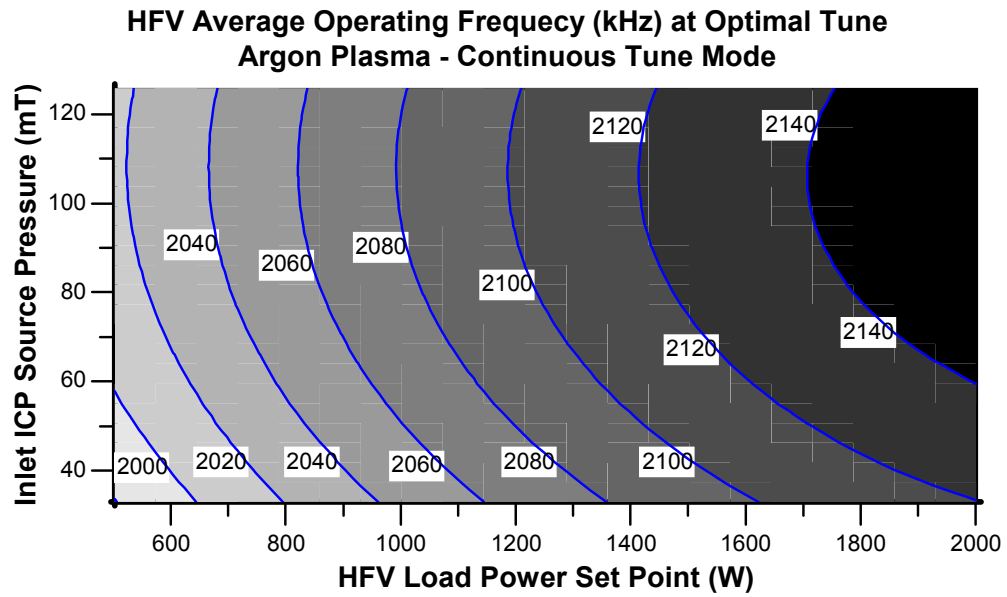
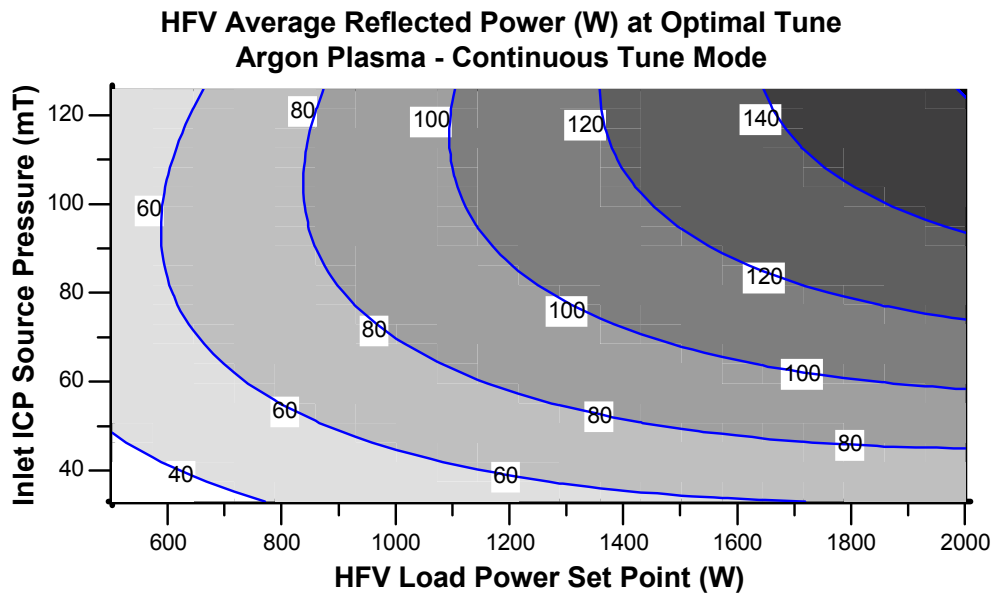
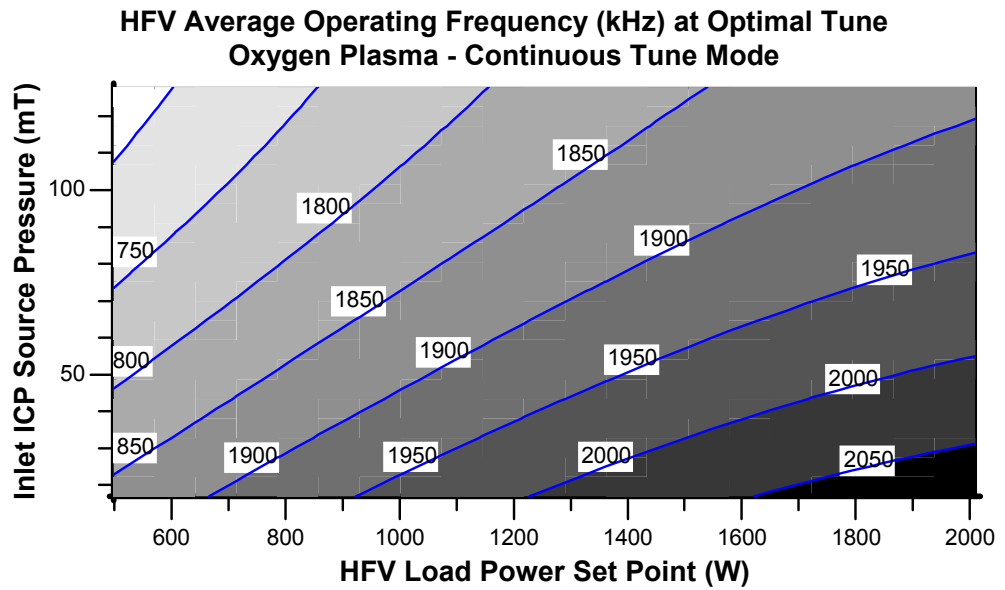
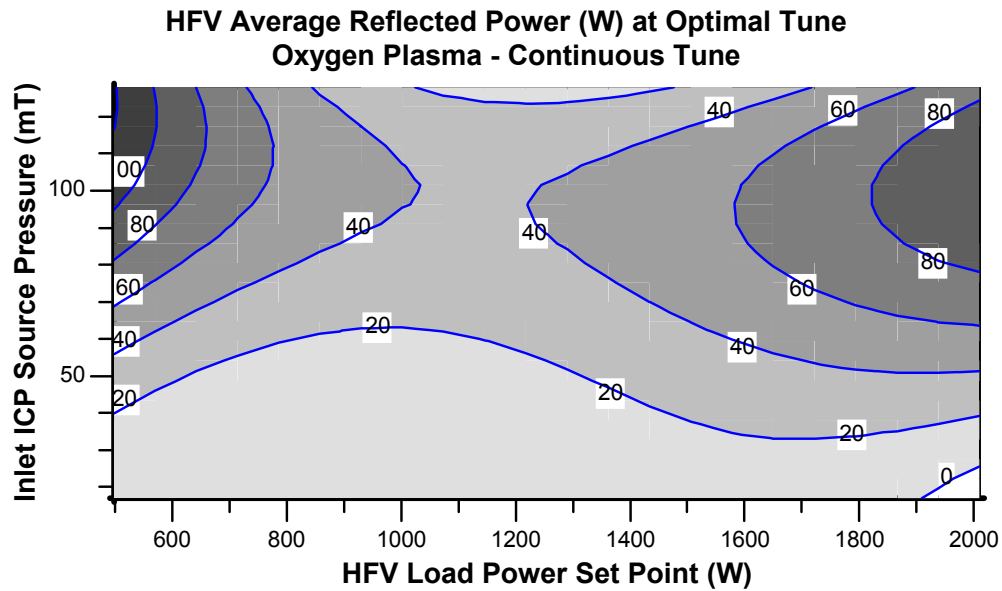

Figure 5-6. Frequency response vs. load power setpoint and inlet pressure
Figure 5-7. Reflected power response vs. load power setpoint and inlet pressure
Figure 5-8. Frequency response vs. load power setpoint and inlet pressure
Figure 5-9. Reflected power response vs. load power setpoint and inlet pressure
Figure 5-6 through Figure 5-9 show contour plots of RF frequency and reflected power against setpoint load power and inlet pressure for Ar and O₂ that are exemplary of normal operation. Depending on the installation and pumping speed of your vacuum system, the exact values of frequency and reflected power in your installation may deviate from these exemplary response surfaces. As such, the following data should be used as a guide to anticipate the ICP source's response and range under normal operation.
There may be applications where it is necessary to work outside the normal range of operation as depicted in Figure 5-6 through Figure 5-9. In such cases, it is possible to make adjustments to the ICP source's fixed match component to extend the normal range of operation. Please consult AE Global Support for service and support for more details to alter or extend the range of operation of your ICP source (see "AE Global Support" on page 6-9).
Figure 5-6 and Figure 5-7 show the exemplary response of HFV frequency and reflected power for argon gas in the ICP source under continuous tune and load power regulation.
- Figure 5-6 shows the frequency response versus load power setpoint and inlet pressure.
- Figure 5-7 shows the reflected power response versus load power setpoint and inlet pressure.
Figure 5-8 and Figure 5-9 show the exemplary response of HFV frequency and reflected power for oxygen gas in the ICP source under continuous tune and load power regulation.
- Figure 5-8 shows the frequency response in kHz versus load power setpoint and inlet pressure.
- Figure 5-9 shows the reflected power response in Watts versus load power setpoint and inlet pressure.